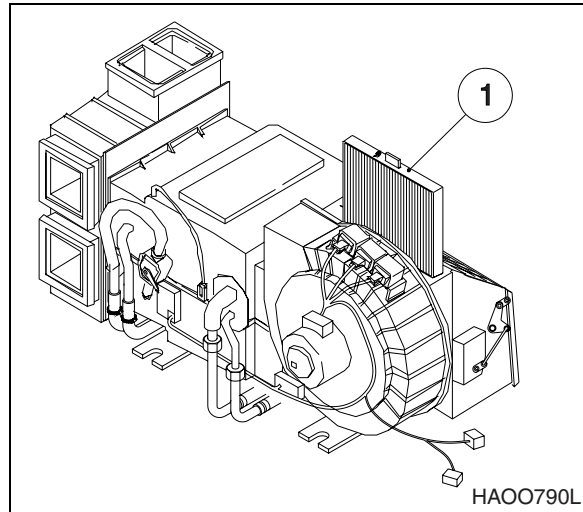

Figure 3
5. Remove filter element (1, Figure 3) and inspect for any damage.